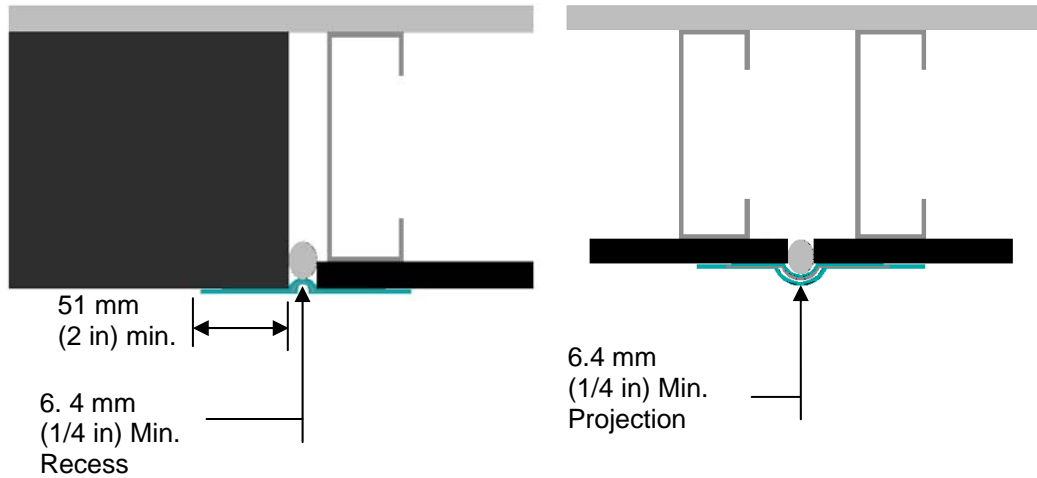

Figure 13
1. The width of the AquaFlash Mesh must overlap each side of the joint a minimum of 51 mm (2 in) - Figure 13.